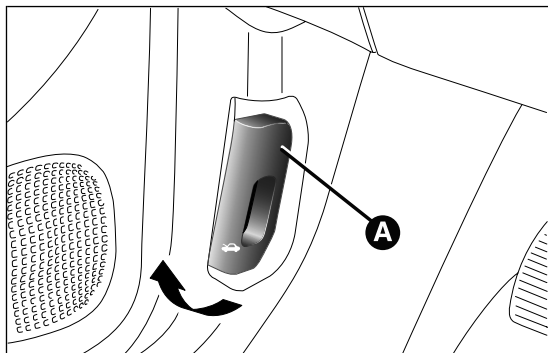

fig. 61
- ☐ pull lever A fig. 61 in the direction indicated by the arrow;